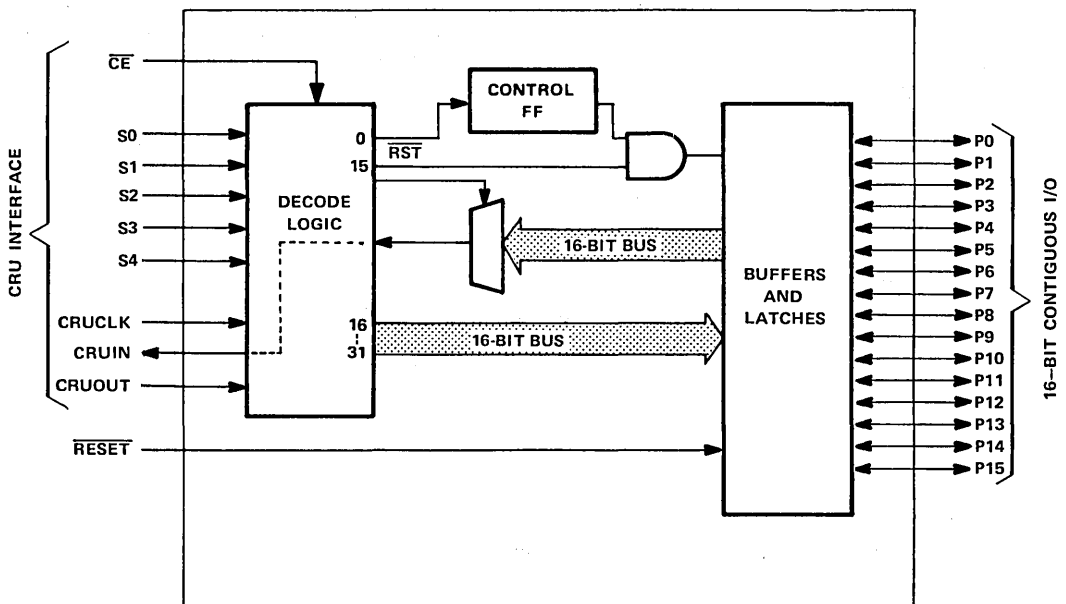

FIGURE 1. SBP9960 FUNCTIONAL BLOCK DIAGRAM
The SBP 9960 communicates with the CPU through the communications Register Unit (CRU) interface as shown in Figures 1 and 3. The SBP 9960's CRU interface consists of: a) five CRU address select lines (S0-S4), b) a single chip enable (CE), c) a 9960 to CPU serial data-bit line (CRUIN), d) a CPU to 9960 serial data-bit line (CRUOUT), and e) a CPU to 9960 serial data-bit clock (CRUCLK). When  $\overline{CE}$  is activated (logic-level low), S0-S4 select a specific single-bit I/O port as indicated in Table 1. In the case of an SBP 9960 write operation, the datum is transferred from the CPU to the SBP 9960 via the CRUOUT line. The CRUOUT datum is strobed into the selected single-bit port by CRUCLK. In the case of a SBP 9960 read operation, the selected single-bit port is sampled by the CPU via the CRUIN line.